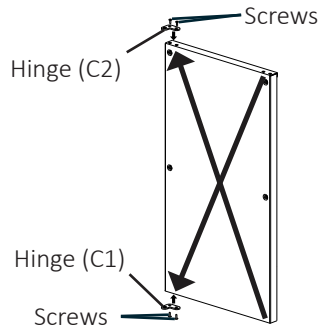

Fig. 8
f) Remove hinge (C1) from the top right part of the door, flip it and reattach to the bottom left. Remove hinge (C2) from the bottom right part of the door, flip it and reattach to the top left (See Fig. 8). Proceed to step 7.